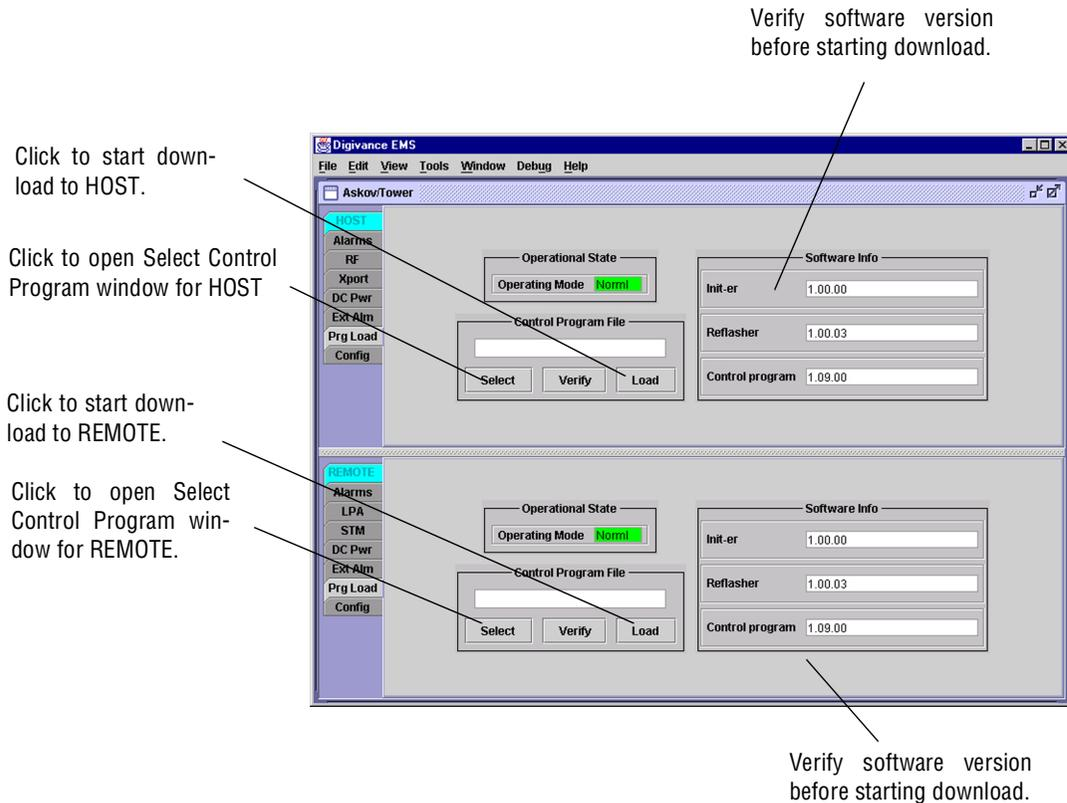

Figure 4-3. HOST and REMOTE Prg Load Displays
1. Click on the **HOST Prg Load** tab and on the **REMOTE Prg Load** tab. The **HOST Prg Load** display and the **Remote Prg Load** display will open within the EMS main window as shown in Figure 4-3.
2. Click on the **HOST Select** button (see Figure 4-3). The **Select Control Program File** window will open as shown in Figure 4-4. Browse until the folder where the Control Program files are located is selected and the software files are displayed in the window.
5. Click on the **HOST Load** button (see Figure 4-3) to start the download.